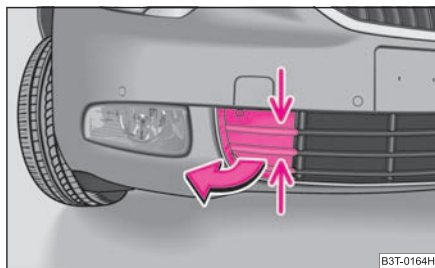

Fig. 220 Front bumper:
- Grasp the grille at the point marked with the arrow and take it out ⇒ fig. 220.